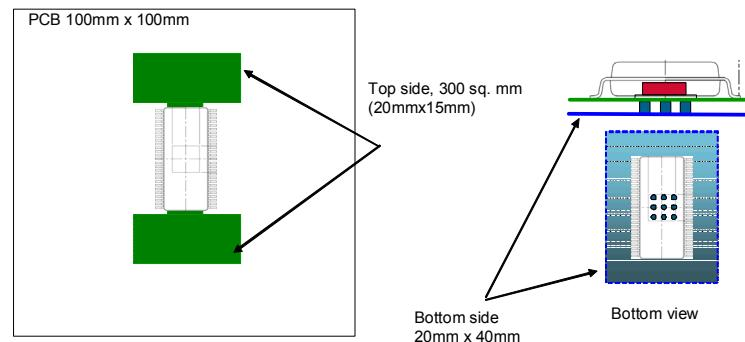

Figure 9. PCB with Top and Bottom Layer Dissipation Area (Dual Layer)
8. This parameter was measured according to Figure 9: